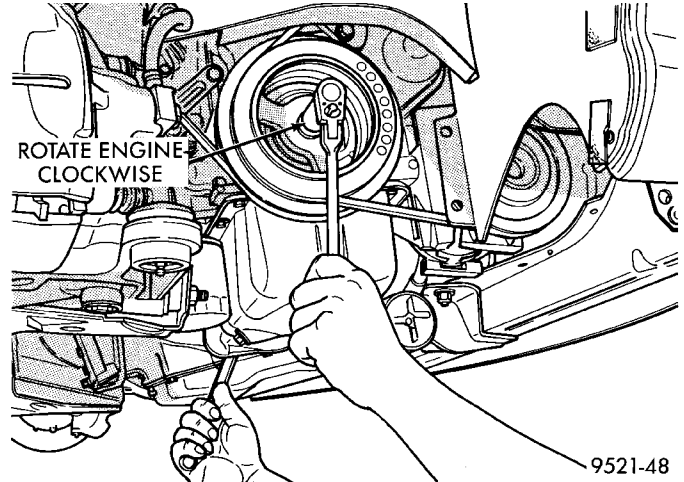
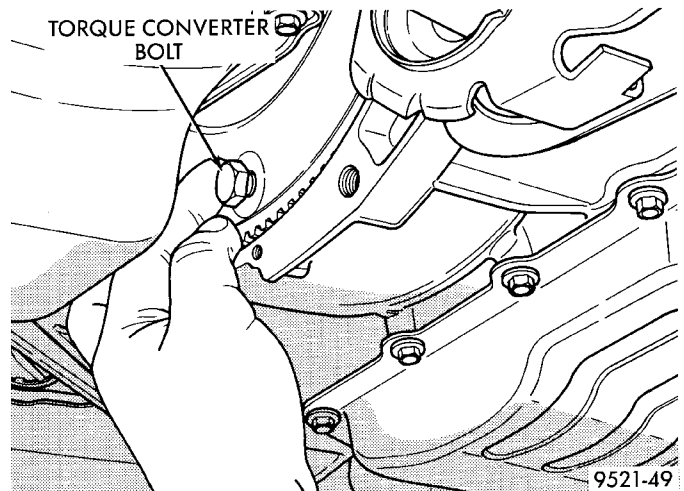
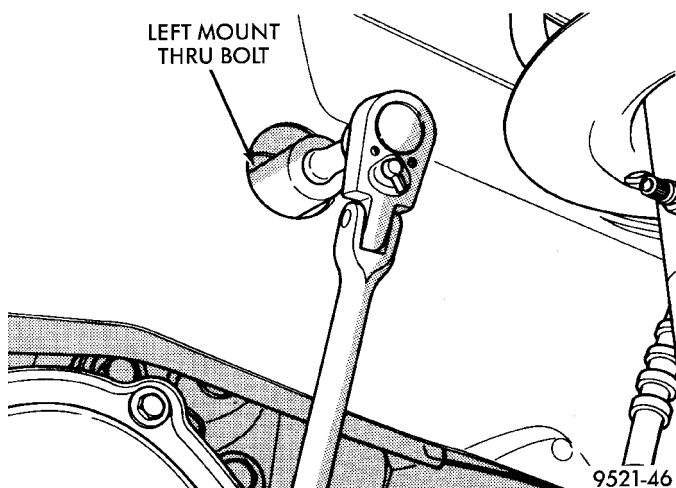
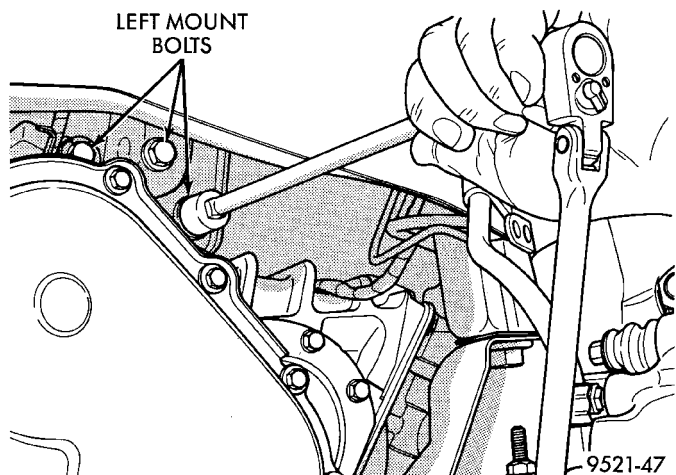

Fig. 40 Rotate Engine
Fig. 41 Torque Converter Bolts
Fig. 42 Left Transaxle Mount Through-Bolt
Fig. 43 Left Mount Bolts
(18) Rotate engine clockwise to gain access to converter bolts (Fig. 40). Remove torque converter bolts (Fig. 41). Mark converter to flex plate for reassembly ease.
- (19) Support transaxle with a transmission jack.
- (20) Remove left mount through-bolt (Fig. 42). Remove left mount bolts from transaxle (Fig. 43).
- (21) Remove left transaxle mount from transaxle.
- (22) Remove rear engine bolt at transaxle.
(23) Carefully work transaxle and torque converter assembly rearward off engine block dowels. Disengage converter hub from end of crankshaft. **Attach a small C-clamp to edge of bellhousing. This will**